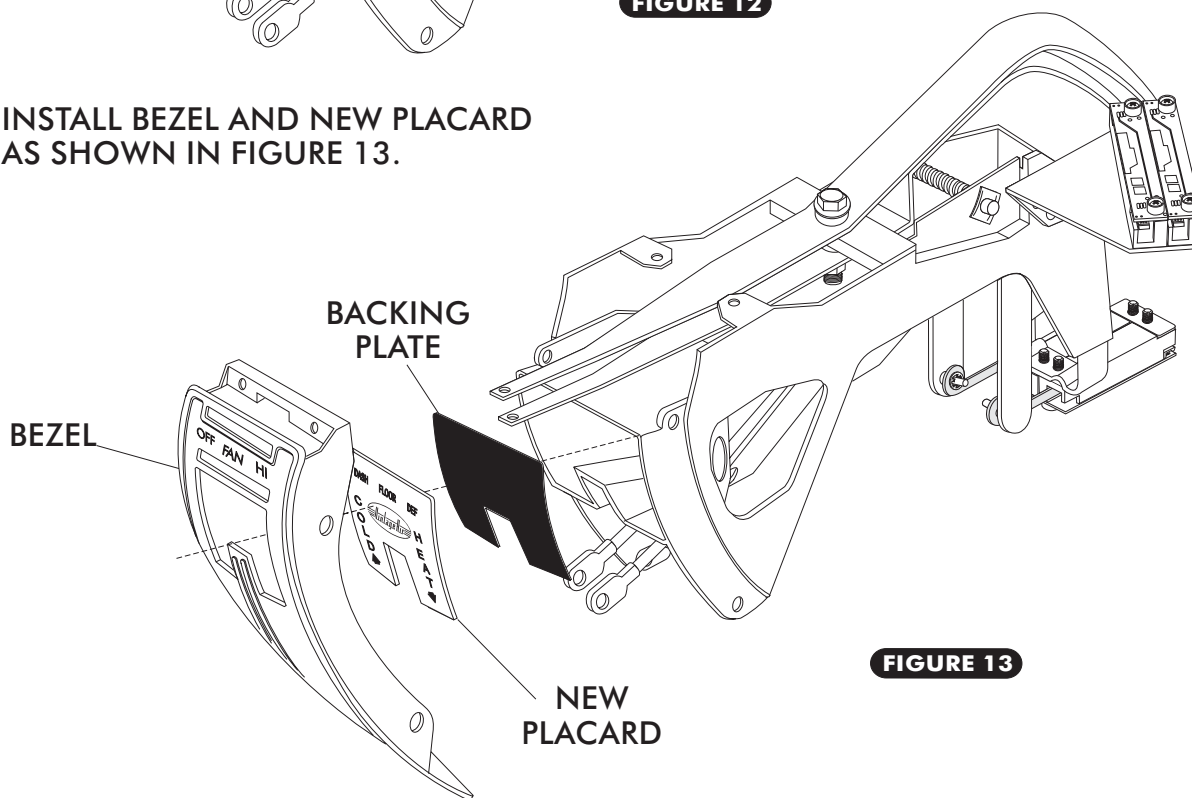

FIGURE 13
- INSTALL BEZEL AND NEW PLACARD AS SHOWN IN FIGURE 13.